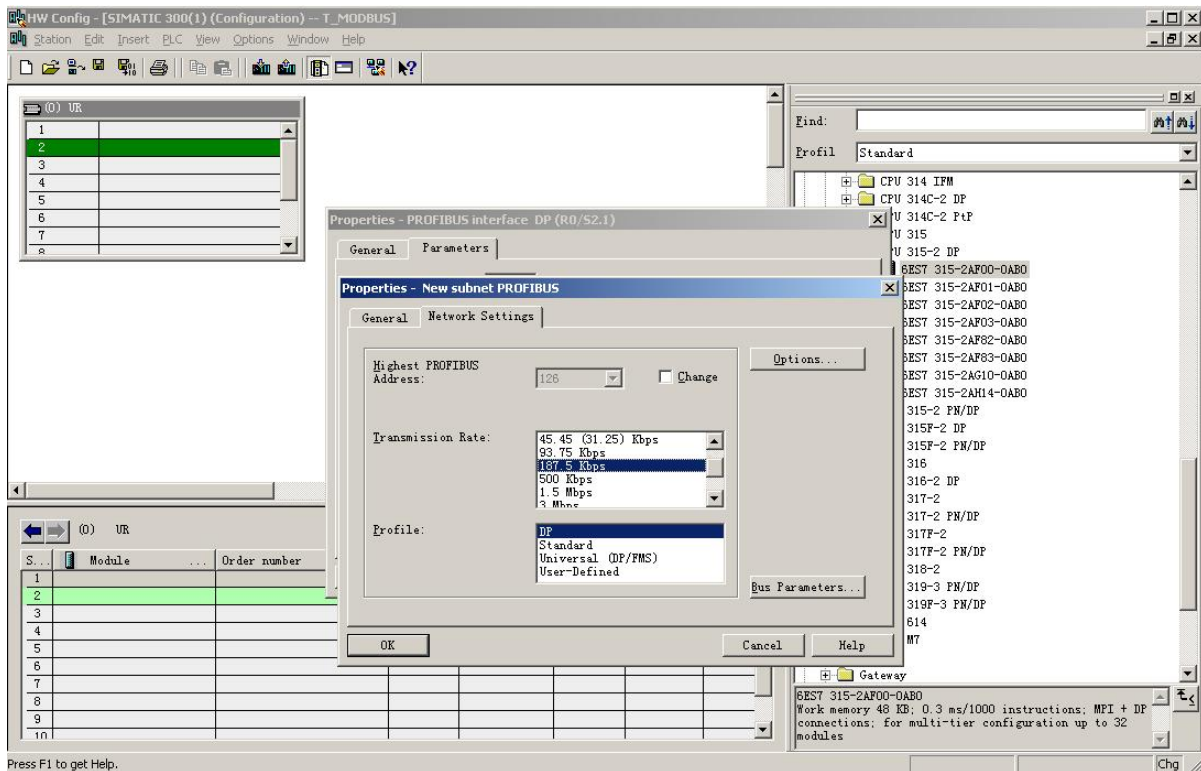

Figure 8
9. Create PROFIBUS DP network and set PROFIBUS DP: Click New -> Network settings. Select DP and select a baud rate such as 187.5Kbps. Then select "OK". Double-click it. As Figure 8 shown: